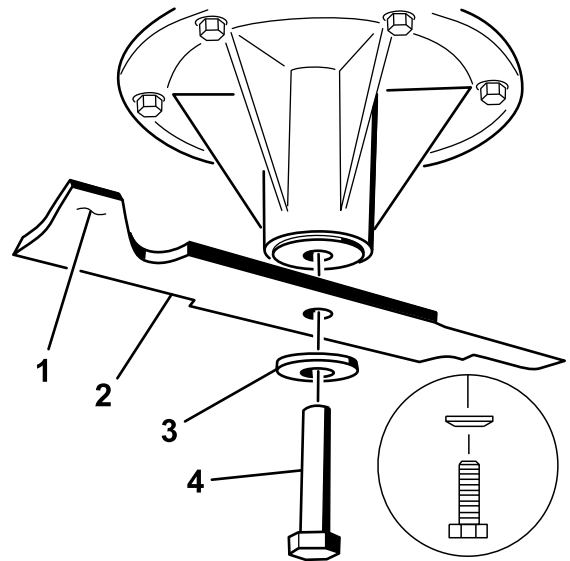

Figure 89
2. Remove the left and center blade bolt, curved washer, and blade from the spindle shaft (Figure 89).